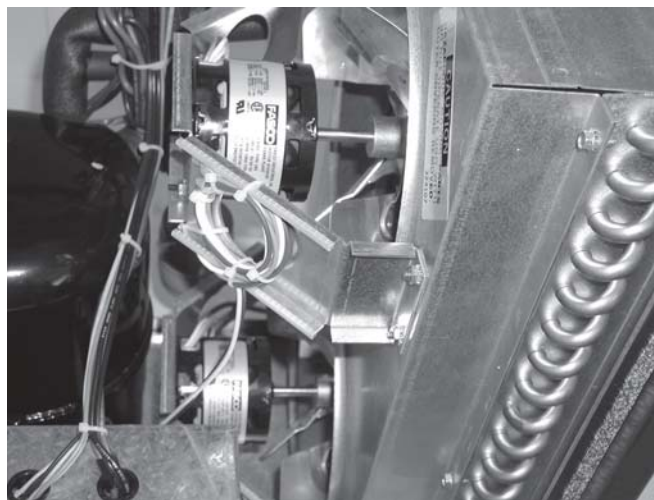

Figure 32. Fan Motor
1. Identify the wires and disconnect. Fig. 32.